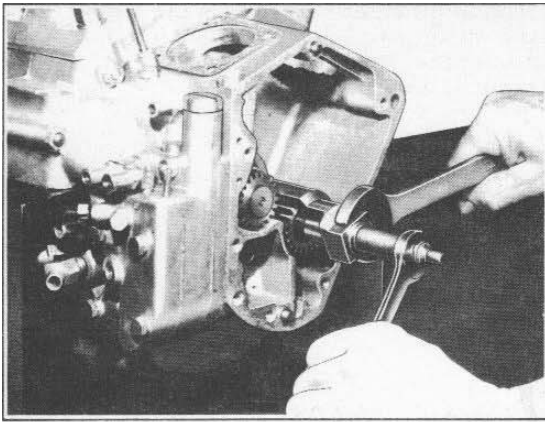

Figure 3-30. Pulling Pinion Gear
1. Remove oil screen cap (1), O-ring (2), screen spring (3) and screen (4).
2. Remove two circuit breaker cover screws (5), cover (6) and gasket (7) from gearcase cover (17).
3. Remove circuit breaker cam assembly bolt (8). Remove screws (9, 9A or 9B), lockwashers and washers (10) or retainer (10A) and circuit breaker plate assembly (11).
4. Remove circuit breaker cam (12) and circuit breaker advance assembly (13)
7. Remove breather valve spacing washer (19) and breather gear (20).
8. Remove cam gear (21), spacing washer (22), and thrust washer (23).
9. Remove pinion gear shaft nut (24) which has a lefthand thread. Use Gear Shaft Nut Socket Wrench, Part No. 94555-55. Pull pinion gear (25) using Pinion Gear Puller and Installer, Part No. 96830-51 as shown in Figure 3-30. Tool has lefthand threads.
10. Remove key (26), gear shaft pinion spacer (27), oil pump pinion shaft gear (28) and key (29).
11. Use a lock ring pliers such as Snap-On No. PR129A, and remove oil pump drive gear shaft lock ring (30), drive gear (31) and drive gear key (32).